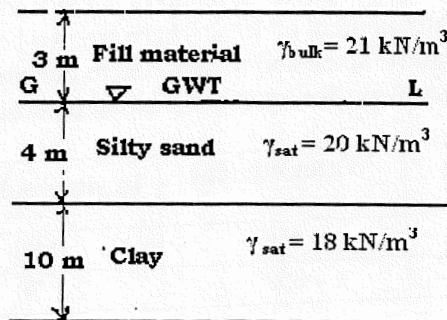

Fig 7b
- (b) For the soil strata shown in Fig. 7b., the water table is lowered by drainage by 2 m and if the top 2 m thick silty sand stratum remains saturated by capillary action even after lowering the water table. Draw the total stress, neutral stress and effective stress diagrams before and after lowering the water table. Also find the increase in effective stress at mid height of clay layer.